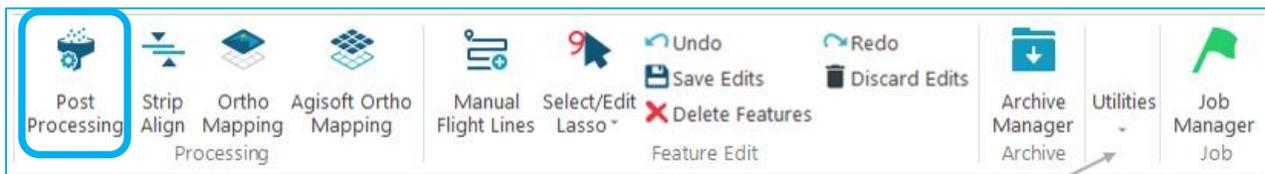
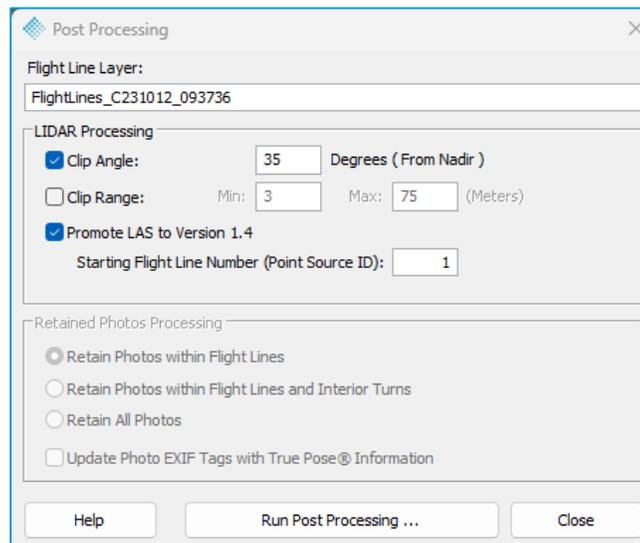

Figure 82 - Post Processing tool on the Sensor Ribbon
Figure 83 - Post-Processing Dialog
2. Open the **Post Processing** dialog by selecting the sensor **Post Processing**  button on the Sensor tab (Figure 82) to open the Post Processing dialog (Figure 83).